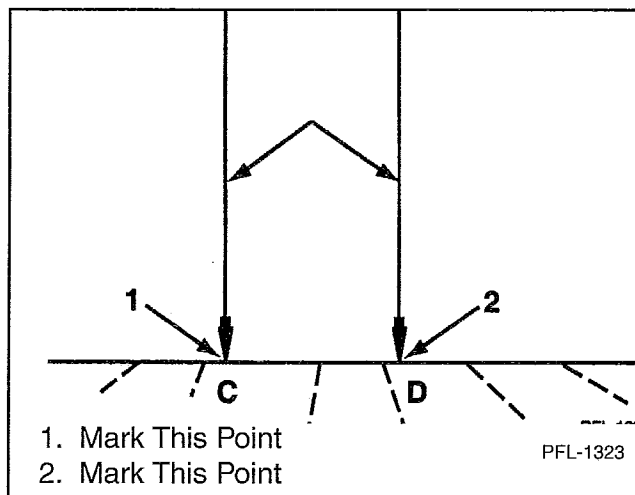

Figure 4
5. Drop a plumb bob and mark points C and D. See Figures 4, 5, and 6.